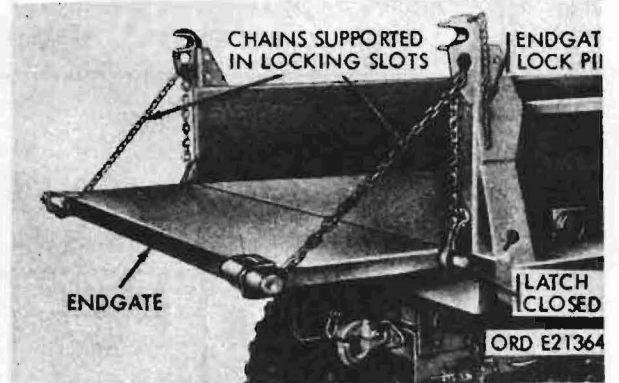

Figure 116. Dump body end gate - horizontal position
- (3) If necessary, material longer than the body may be carried by closing the lower latches and removing the endgate lockpins from the upper latches. The gate is then supported in the horizontal position by endgate chains which are secured in the upper locking slots. (See figure 116.)